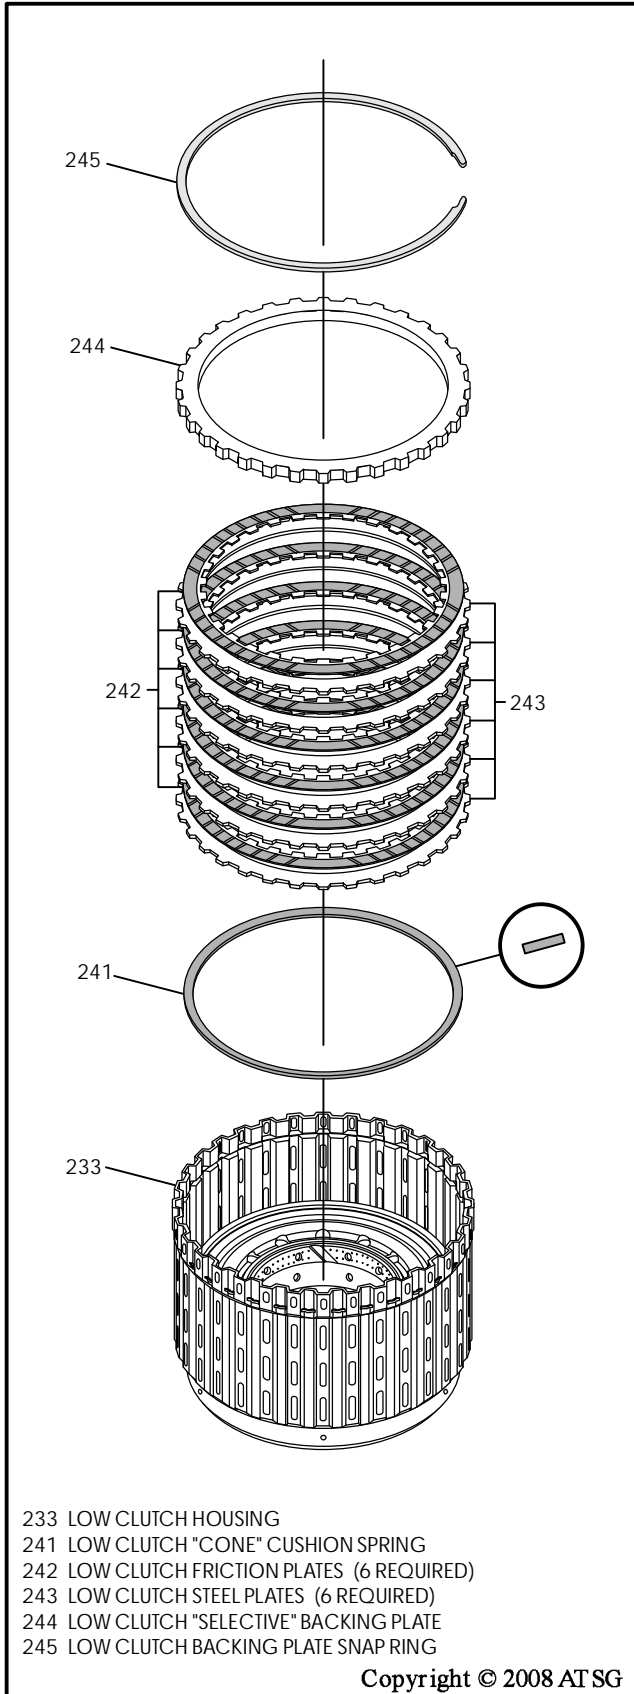

Figure 129
11. Install the low clutch "cone" cushion spring so the outside diameter will contact the steel plate and the inside diameter will contact the piston, as shown in Figure 129.
12. Install the low clutch plates beginning with a steel plate and alternating with a friction plate until you have installed six of each, as shown in Figure 129.
13. Install the "selective" low clutch backing plate as shown in Figure 129.
14. Install the low clutch backing plate snap ring, as shown in Figure 129.